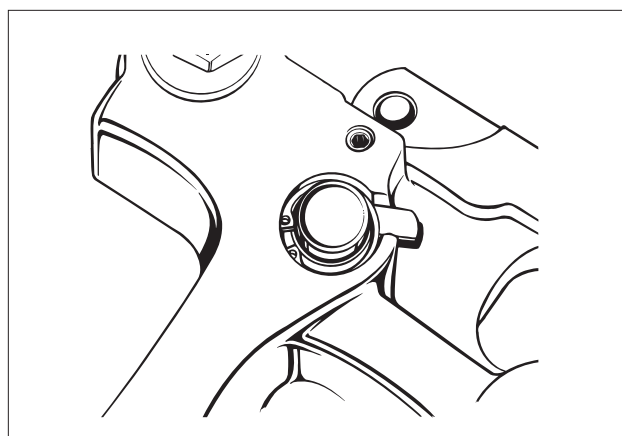

FIG. 16
7. Reassemble the parts, reversing the removal procedure. Be sure retaining ring ears are positioned opposite the oil drain slot in the housing (see Fig. 16).